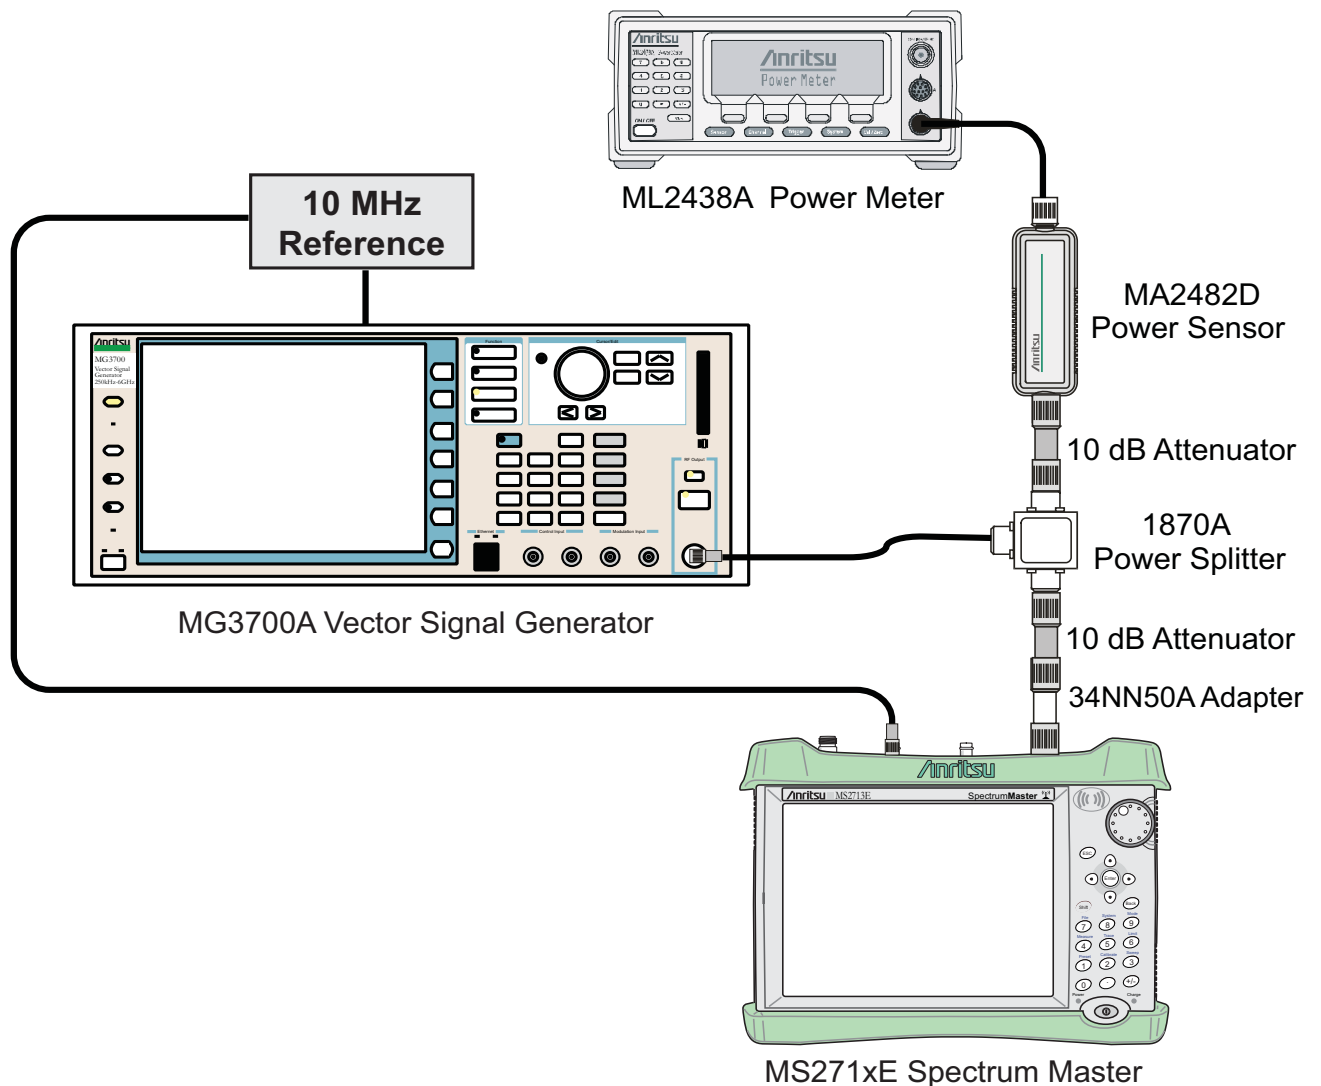

Figure 4-21. TD-LTE Signal Analyzer Option Verification
4. Connect the equipment as shown in Figure 4-21.
4. Connect the equipment as shown in Figure 4-21 on page 4-93.